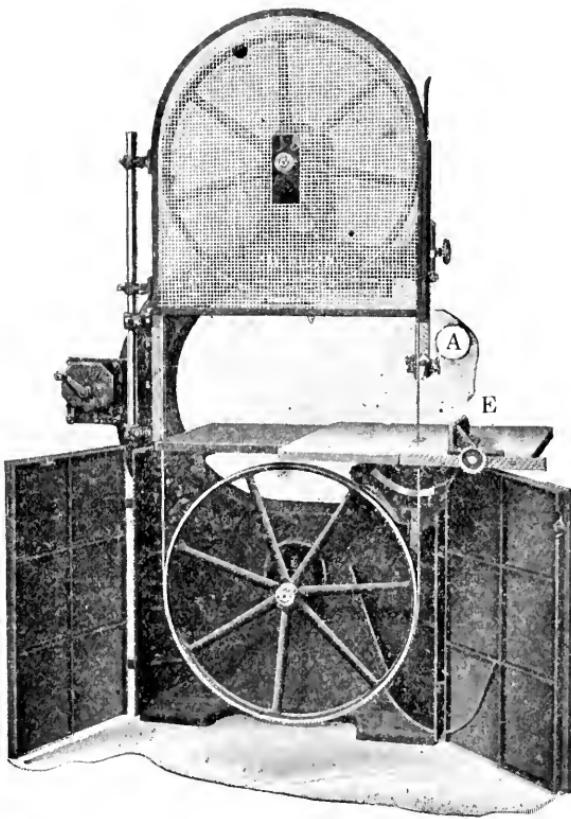

FIG. 36 -- BAND SAWS "A" GUIDE POST "E"
36. General -- Band saws are made in right and left hand types, the right hand being more universal. Figs. 36 and 39 show right hand machines which are properly guarded. Instead of the wire door as the top some machines have a wooden frame of panel construction. The bottom guard in this case consists of two cast iron doors. Sometimes the lower guard is made of panel doors, or, wire frames similar to the guard on the top of the wheel. The guide post, shown at "A" in Fig. 36 is a very essential part of the machine. The Mohawk Dutchman saw guide which
There are times when the band saw is used in ripping to width. For work of this kind, a fence such as is shown at "E" in Fig. 36 is necessary. Ripping to width on a band saw is not accurate, however, like ripping on the saw table.
38. Operation-- The guide "A" in Fig. 36 should be kept as low as possible at all times, when operating the band saw. When sawing, keep in front of the saw and do not step around in line with the direction of travel of the saw wheel. Should the saw break, there is no danger if the machine is properly guarded, and you remain at